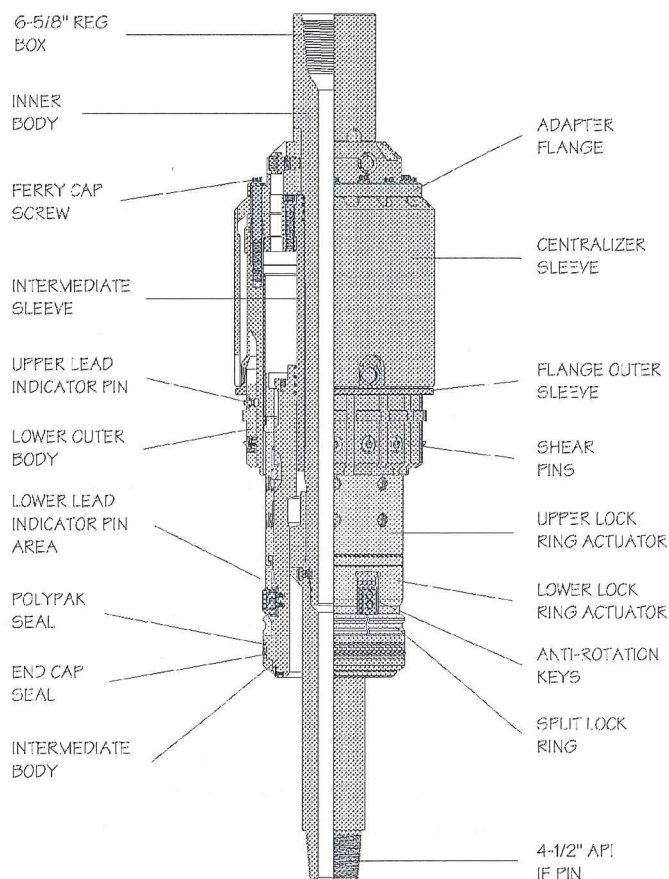

Figure 12. Casing Hanger and Seal Assembly Running Tool
1. Refer to **Figure 12** for identification of the Casing Hanger and Seal Assembly Running Tool (Running Tool) components. Remove the Running Tool from its soluble oil-bath storage can. Record the part number and serial number of the Running Tool for the permanent well file.